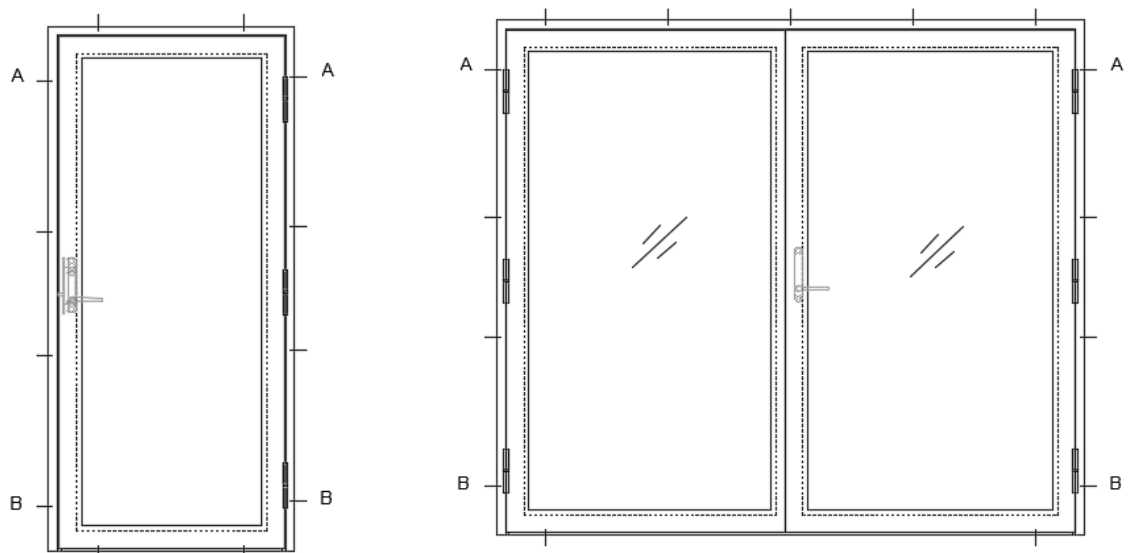

FIGURE 3
- Fasten the construction's upper corners A on the vertical wall according to the existing fastening points (see Figure 3).
- Fasten the construction's lower corners B on the vertical wall according to the existing fastening points (see Figure 3).